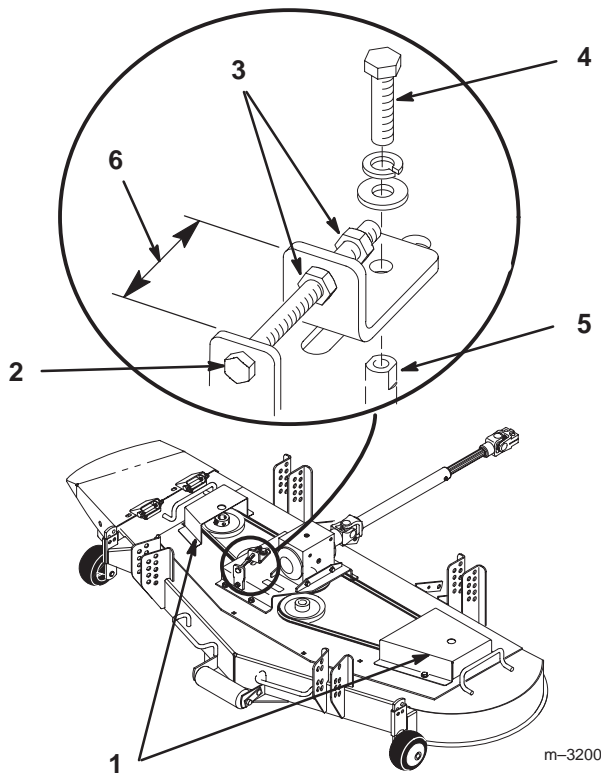

Figure 37
2. Remove the belt covers on top of the outer blade spindles (Fig. 37).
3. Loosen the idler tension bolt and jam nuts, to relieve tension on the idler pulley, then remove the idler mounting bolt and slide idler pulley out through opening (Fig. 37). Remove worn belt.
5. Place idler pulley inside belt loop and slide into opening. Place flats of idler hub into slot and loosely install idler mounting bolt (Fig. 37).
6. Tighten idler tension bolt to achieve the correct dimension between brackets (Fig. 37).
7. Tighten jam nuts and idler mounting bolt securely (Fig. 37).
8. Reinstall the outer spindle covers (Fig. 37).